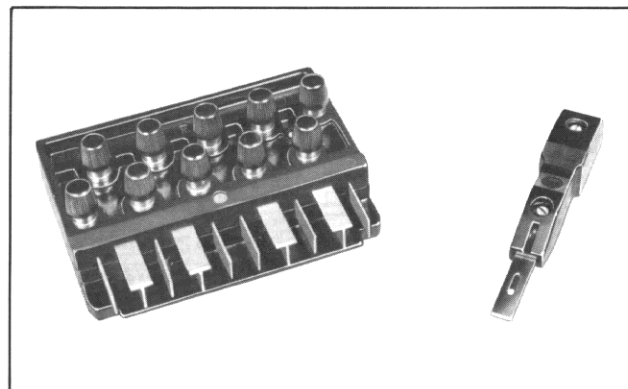

Fig. 24 *Test Plugs for Flexitest Cases and Test Switches (376448)*
1.2.3 Test plugs are furnished when Flexitest cases or Flexitest Type FT-1 test switches are mounted on the switchgear. See Fig. 24.